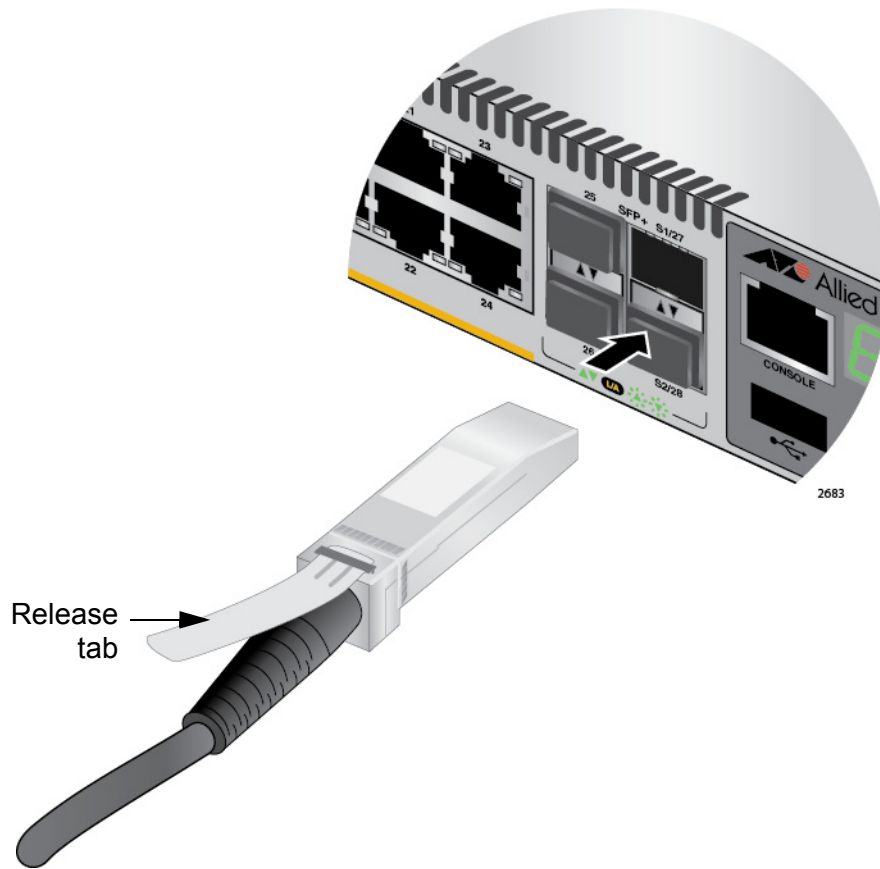

Figure 51. Installing the AT-StackXS/1.0 Transceiver in Slot S1
4. Position the transceiver with the release tab on top and slide the transceiver into the slot, as shown in Figure 51 on page 96.